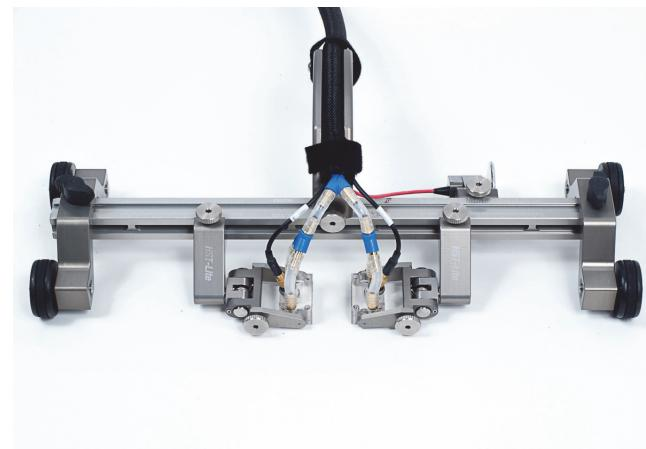

Figure 1-18 Cable and tube bundle in the scanner handle
5. Position the cable and tube bundle in the scanner handle, and then fasten the hook and loop strips (see Figure 1-18 on page 32).